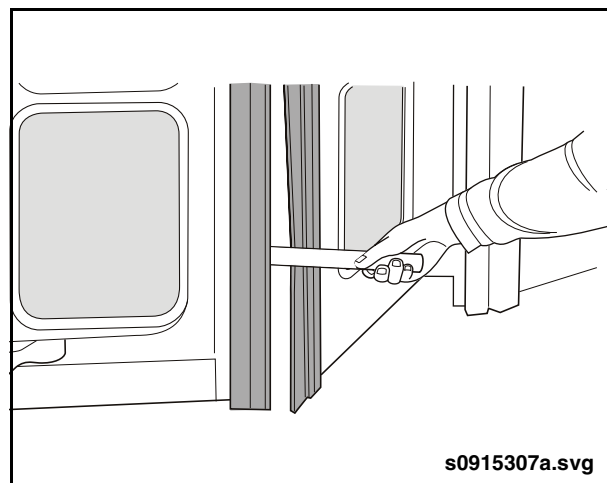

Fig. 2: Rod Test
6. Standing outside the bus with the door closing, hold a 1 inch diameter rod (hardwood or metal approx. 18 in. (45.72 cm) long) perpendicular to the side of the bus at the vertical centerline of the door opening, 12 inches above the bottom of the door panels. See "Fig. 2: Rod Test."